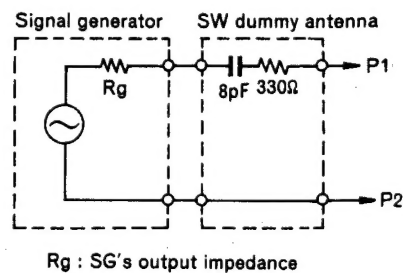

Fig. 5
7. Transmit to the dummy antenna in Figure 5 and connect to P1.